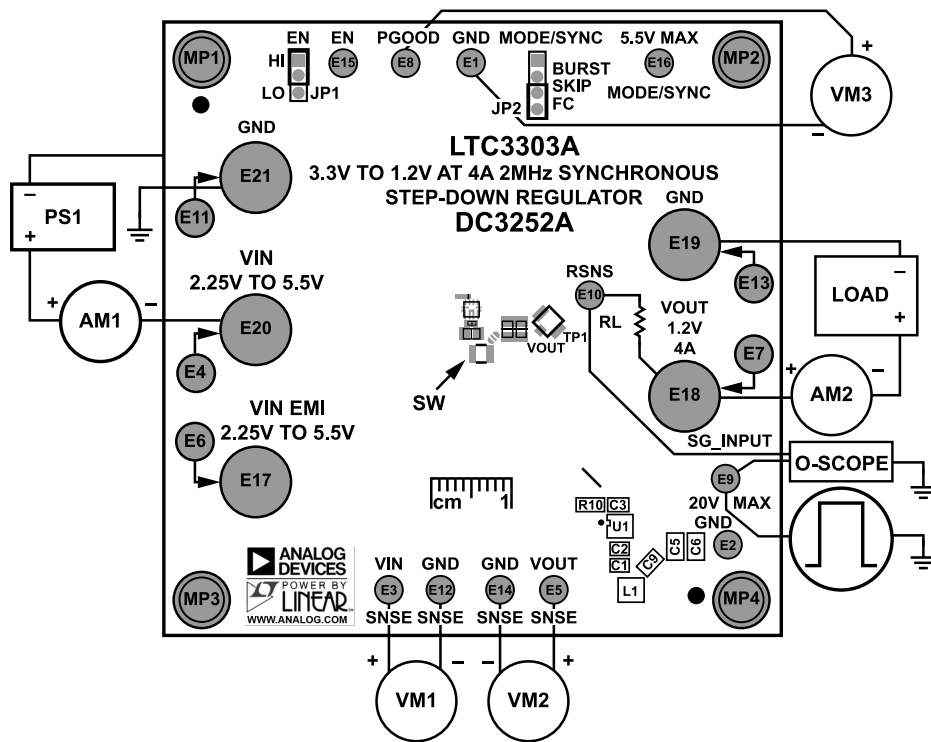

Figure 3. Test Setup for the DC3252A Demo Board
Demonstration circuit DC3252A is easy to set up and use to evaluate the performance of the LTC3303A. For the proper measurement equipment setup, see Figure 3 and follow the procedure below:
NOTE: For accurate V_{IN} , V_{OUT} , and efficiency measurements, measure V_{IN} at the V_{IN} SNSE and GND SNSE turrets, and V_{OUT} at the V_{OUT} SNSE and GND SNSE turrets as shown as VM1 and VM2 in Figure 3. When measuring the input or output voltage ripple, care must be taken to avoid a long ground lead on the oscilloscope probe. Measure the output voltage ripple by touching the probe tip directly across the output turrets or to TP1 as shown in Figure 4. TP1 is designed for a 50 Ω coax cable to reduce any high frequency noise that might couple into the oscilloscope probes.
- To test the transient response with a base load, add the required resistor to produce a minimum load between V_{OUT} and RSNS turrets (RL shown on Figure 3). Note that the total load resistance is RL plus R8 (100 m Ω).